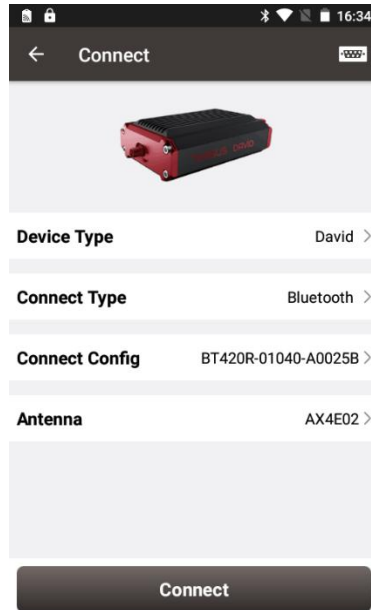

Figure 6.2 Connect David30-TAP via Bluetooth
6. Select [Bluetooth] in the option list of Connect Type as shown in Figure 6.2.